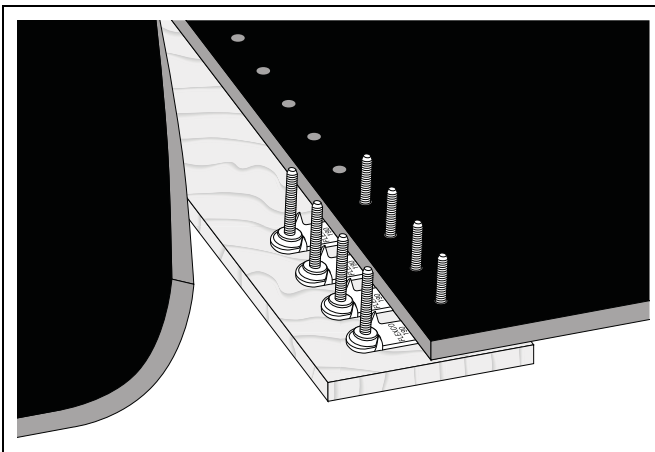

Figure 4Y
4. Fold one belt end back and insert bolts in one row of holes. *(See Figure 4Y.)*